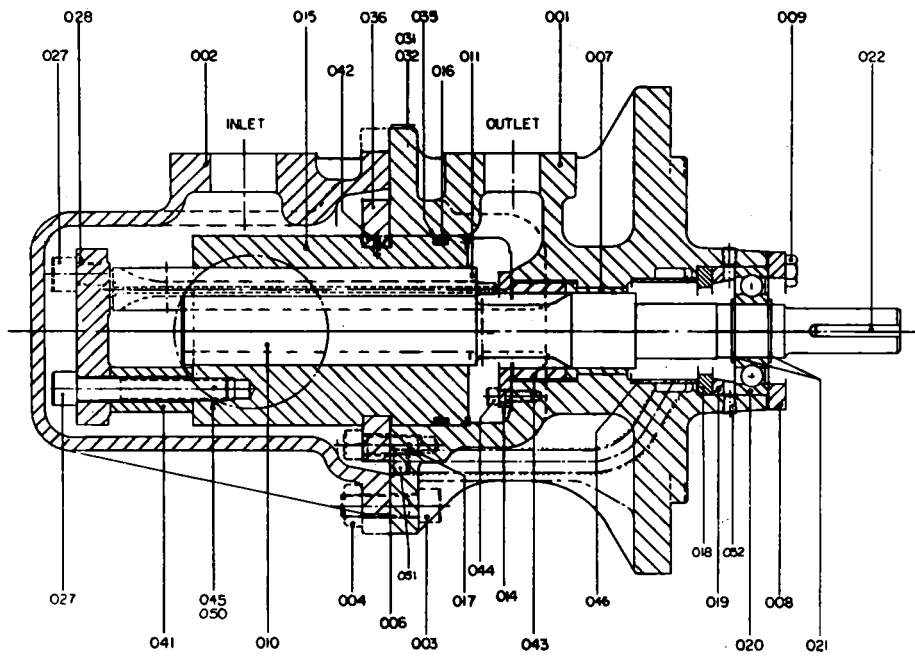

FIGURE 11.
STEP 8. (Figure 11 Only) Install spacers (046, 018 and 019) in cover (001).